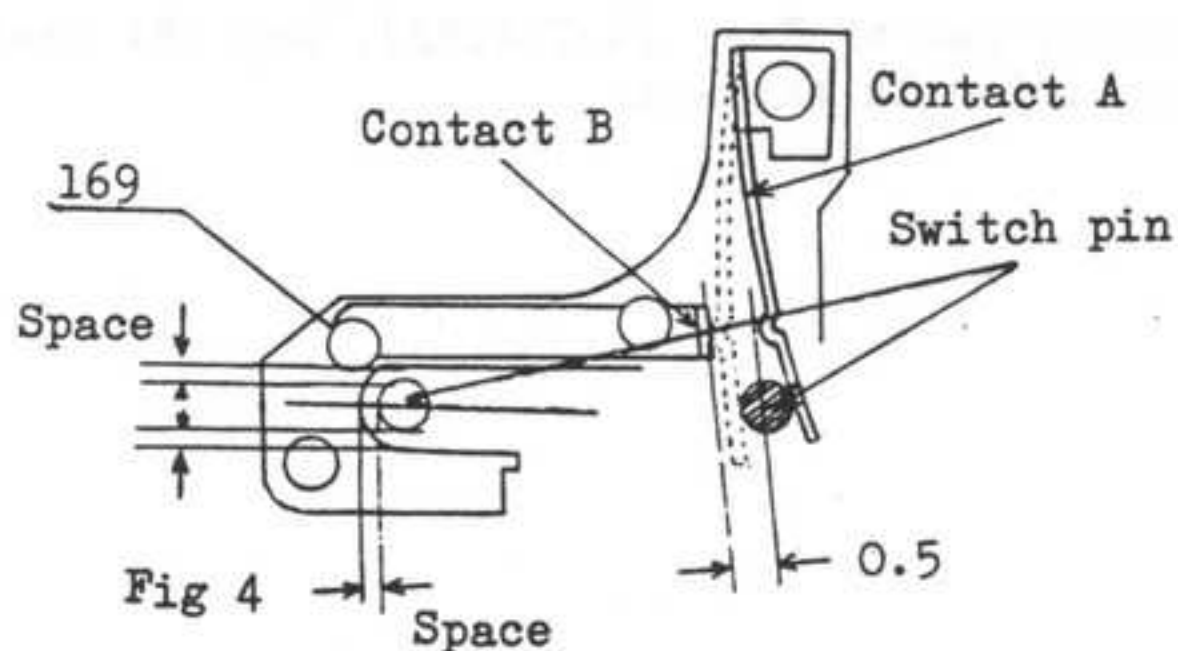

Fig 4
Swing Wind lever (157) to the extent that it does not return to its rest position, and in this state fix Battery contact base (169) with Screw (168). Adjust the switch contacts so that a space between the contact A and B will be kept to be about 0.5 when Wind lever (157) is being at its rest position. See Fig. 4.